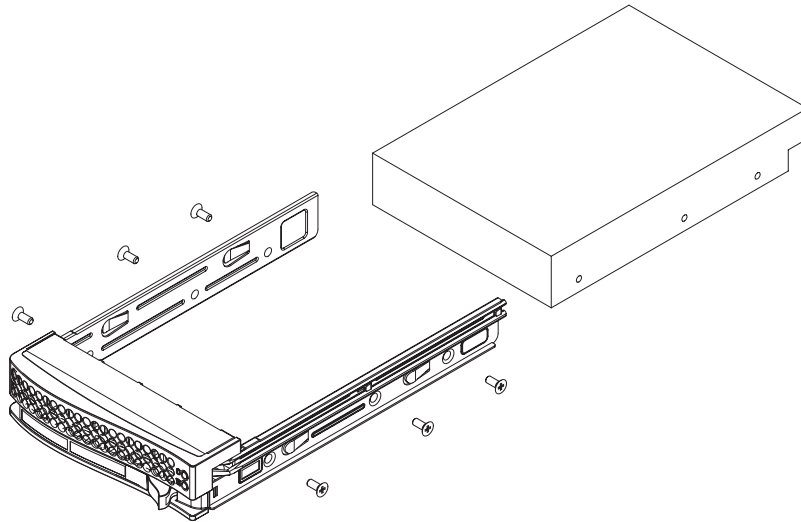

Figure 6-3 Example of Mounting a Drive in a Carrier
2. Secure the drive to the carrier with side-mounting screws, see the example in Figure 6-3 on page 47.